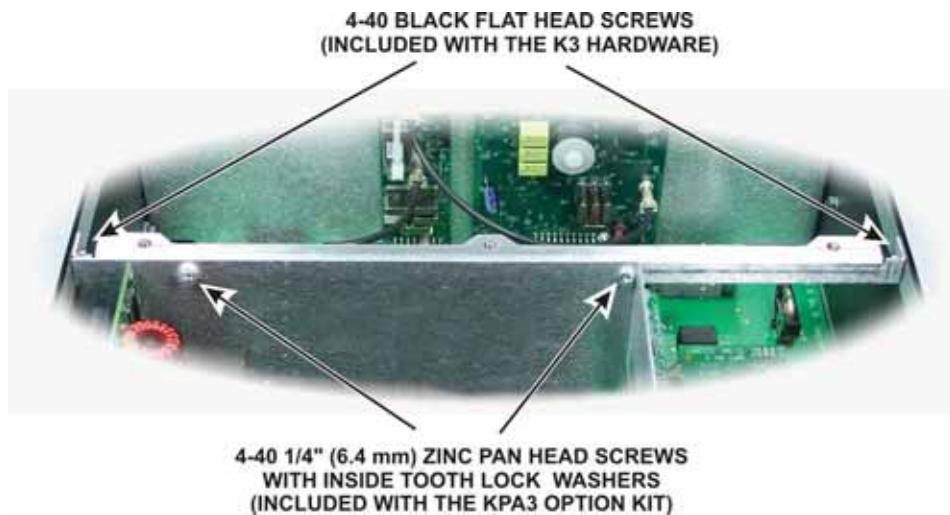

Figure 80. Installing the Chassis Stiffener Bar.
- Remove the stiffener bar from the top cover and install it on the chassis as shown in Figure 80. The hardware required to attach it to the shield are in the KPA3 Option kit. The black flat head screws used to attach it to the side panels are part of the K3 kit hardware.